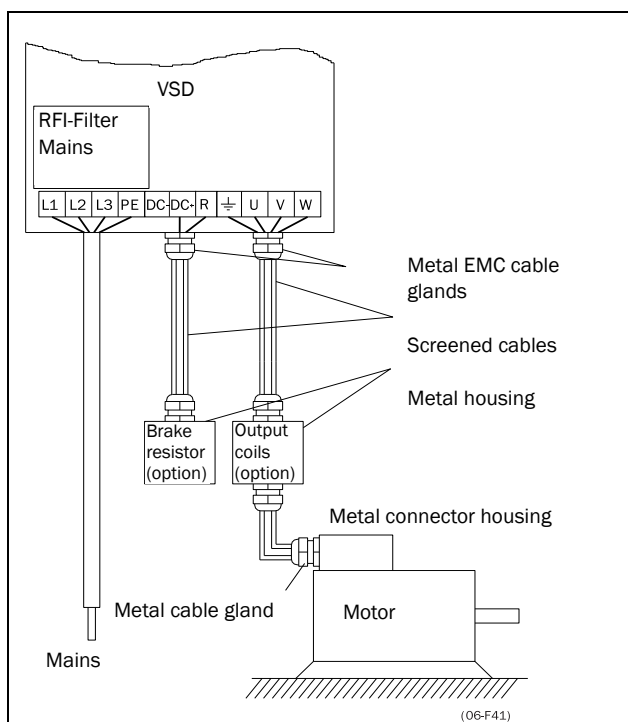

Fig. 24 Variable speed drive as stand alone
- The litz ground connection, see fig. 24, is only necessary if the mounting plate is painted. All the variable speed drives have an unpainted back side and are therefore suitable for mounting on an unpainted
Fig. 24 shows an example when there is no metal mounting plate used (e.g. if IP54 variable speed drives are used). It is important to keep the “circuit” closed, by using metal housing and cable glands.